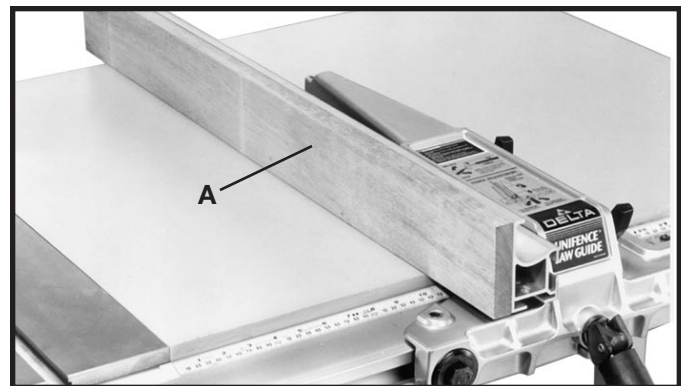

Fig. 60
CAUTION It is necessary when performing special operations such as when using the moulding cutterhead to add wood facing (A) Fig. 60, to one side of the rip fence as shown. The wood facing is attached to the fence with wood screws through holes you drill in the fence. A suitable stock size for most work is 3/4", although an occasional job may require one inch facing.